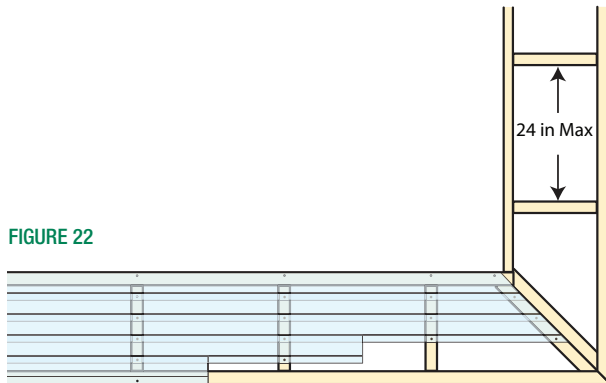
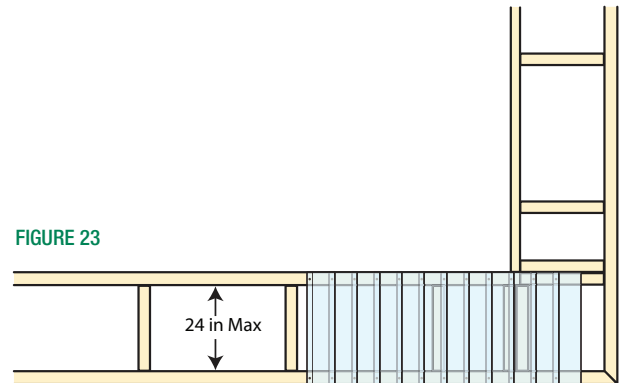

FIGURE 22
FIGURE 23
- Artisan siding can be installed in the long direction (fig. 22) or the short direction (fig. 23)
- Place butt joints between studs (fig. 22). Install butt joints in moderate contact in soffit applications (caulking, H covers, and battens are also acceptable)